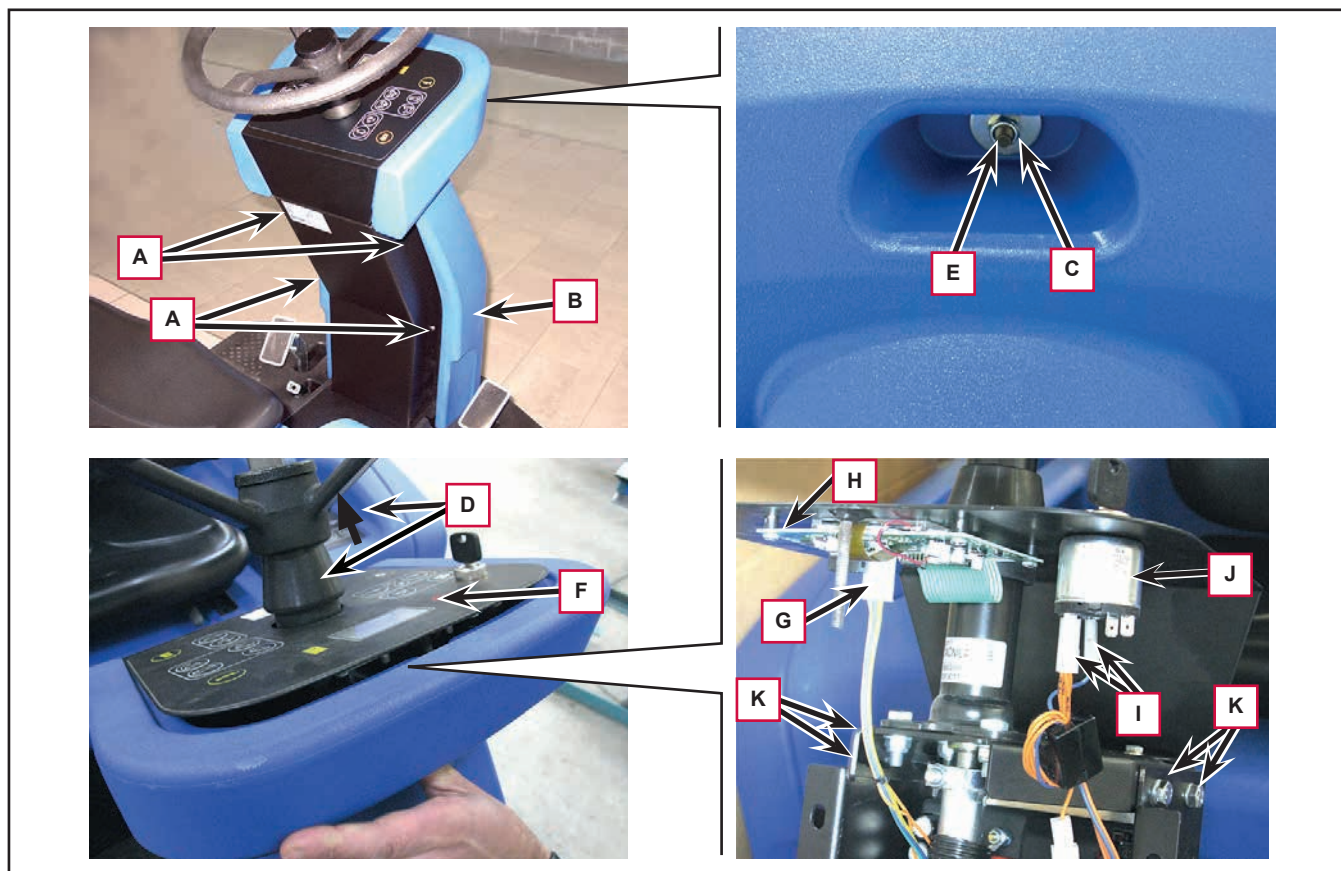

Figure 8
5. Unscrew the four screws (A, Figure 8) fastening the fairing (B).
6. Unscrew the nut (C) on the front.
7. Slide the sleeve (D) until it is flush on the steering wheel.
8. Press the stud (E), sliding it upwards (causing the Main Control Board (F) to lift slightly), then remove the fairing (B) by disengaging it from its seat and the stud (E).
9. Disconnect the electrical connection (G) from the Display Controller (H).
10. Disconnect the electrical connections (I) from the ignition key assembly (J).
11. Unscrew the four screws (K) on the Main Control Board support.